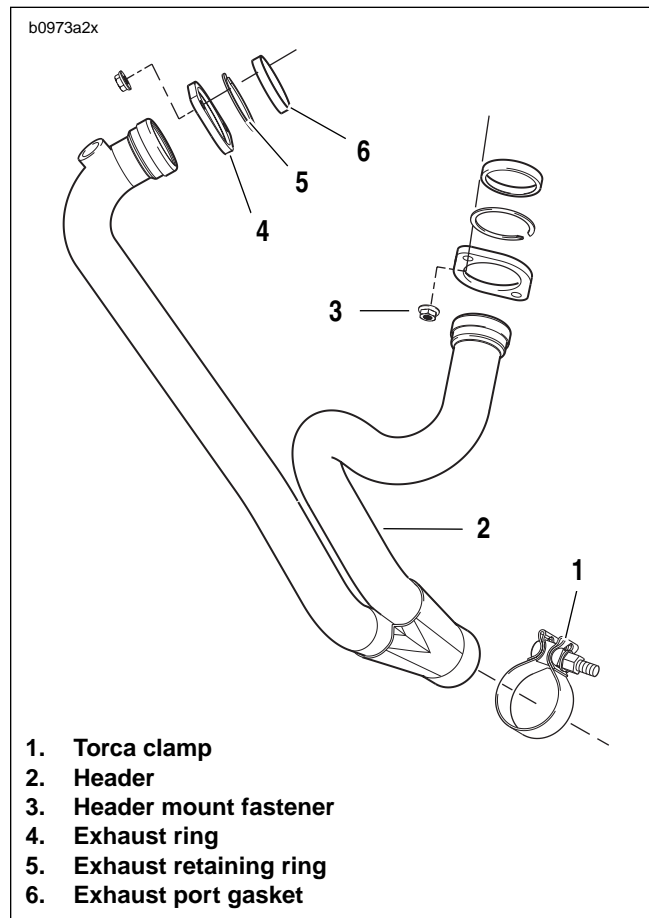

Figure 2-116. Exhaust Header
6. See Figure 2-116. Loosen Torca clamp (1).
3. See Figure 2-116. Remove exhaust header (2) by removing mounting fasteners (3).
4. Remove exhaust ring (4), retaining ring (5) and port gasket (6).
1. See Figure 2-116. Install exhaust ring (4), retaining ring (5) and **new** port gasket (6).
2. Install exhaust header (2). Tighten mounting fasteners (3) to 72-96 in-lbs (8-11 Nm).
5. See Figure 2-116. Tighten the Torca clamp (1) to 28-30 ft-lbs (38-40.6 Nm).